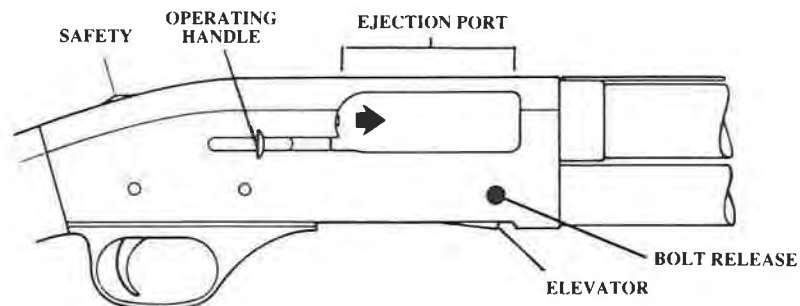
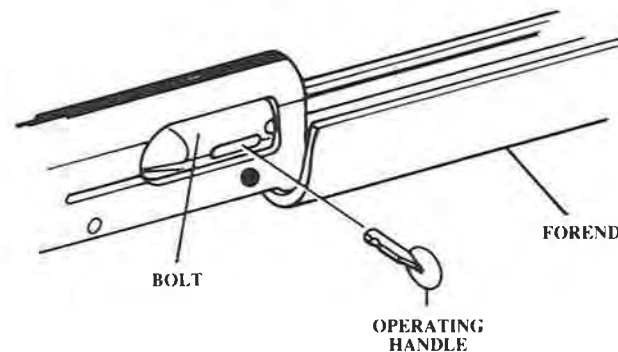
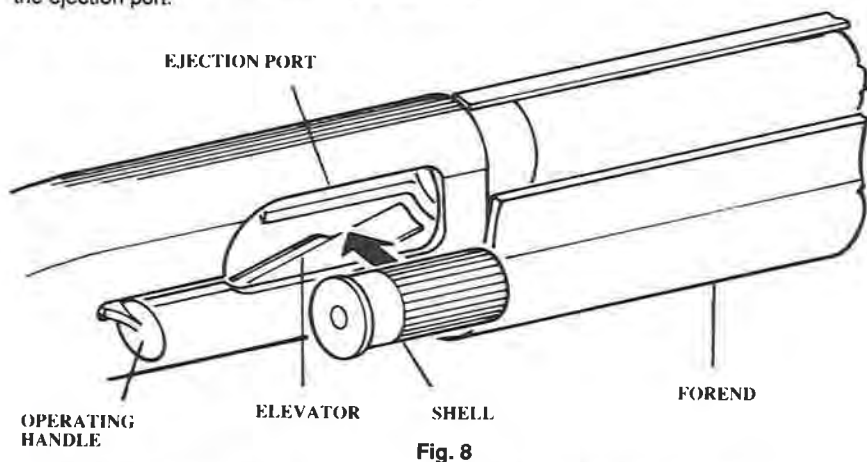

Fig. 3
Fig. 4
Fig. 8
**Caution - The bolt is always under spring pressure. When the bolt release is pushed with the bolt locked rearward, the bolt is driven forward toward the muzzle with considerable force. Do not have fingers or other objects in the ejection port or near the operating handle (Fig. 3).**
The operating handle (Fig. 3) must be assembled securely in place in the action before the forend is removed. Should handle not be in place proceed as follows (See Fig. 4). To assemble the operating handle, align the slot in the bolt with the slot in the action bar assembly, holding the operating handle with the notch rearward. Insert the handle through the slot in the action bar assembly. Push operating handle inward until plunger engages with notch in handle.
With fingers and other objects away from the ejection port and operating handle, push the bolt release (Fig. 3). The bolt should be driven forward under spring pressure and lock in the closed position. Grasp operating handle and pull bolt fully rearward to the locked position. The bolt should cycle smoothly without binding.
TO CLOSE ACTION — With safety fully rearward to the "ON" (SAFE) position, press bolt release until action releases. **CAUTION: Keep fingers clear of operating handle and ejection port when closing action** (See Fig. 3).
Open the action by pulling the operating handle completely rearward until it locks in the open position (Fig. 3).
If you wish to load the firearm with the maximum number of shells or fire single shots, load the first shell through the ejection port located on the right side of the receiver (Fig. 8). The shell can be inserted directly into the chamber or placed on top of the elevator. Close the action by pressing the bolt release (Fig. 3). Be sure to keep fingers and other objects out of the ejection port.
WARNING: During firing, the operating handle (Fig. 3) travels rearward with considerable force and velocity. Do not place hands or other objects in its path.